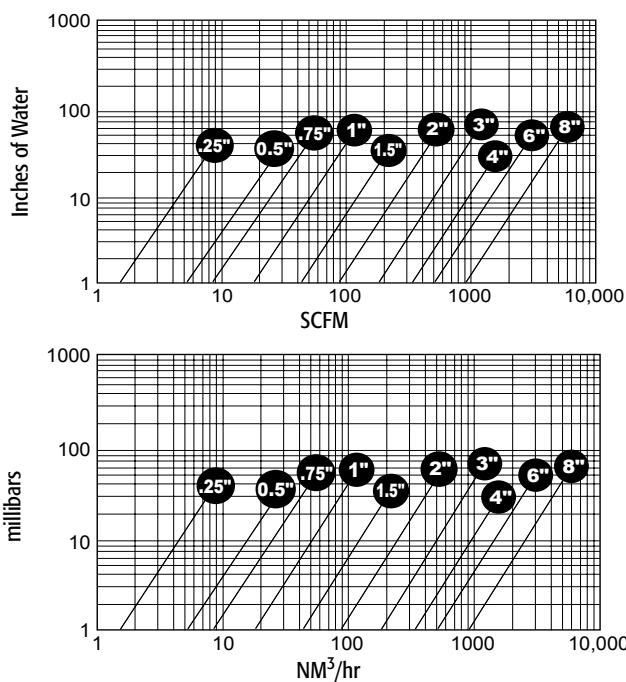

Figure 1: Insertion 4" to 36" (10.2 to 91.4 cm)
Probe Lengths (LL) – (See Figure 1) = 4.0(10.2), 6.0(15.2), 9.0(22.9), 12.0(30.5), 15.0 (38.1), 18.0(45.7), 24.0(61.0), 30.0(76.2), 36.0(91.4). Contact Fox for longer probes.